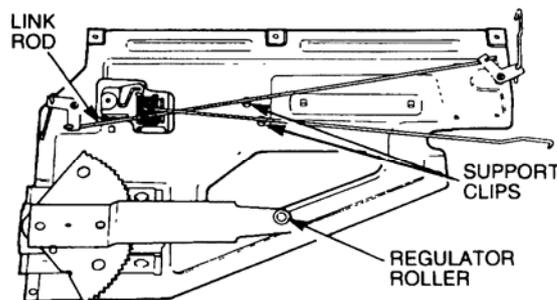

Figure 16 Rear Side Door Inner Panel Removal
- n. Disconnect the clips and link rods from the interior door lock button, the lock button link at the lock assembly and the interior lock release link rod at the lock (refer Figure 16).
- aa. Press the link rod into the support clip (refer Figure 16).